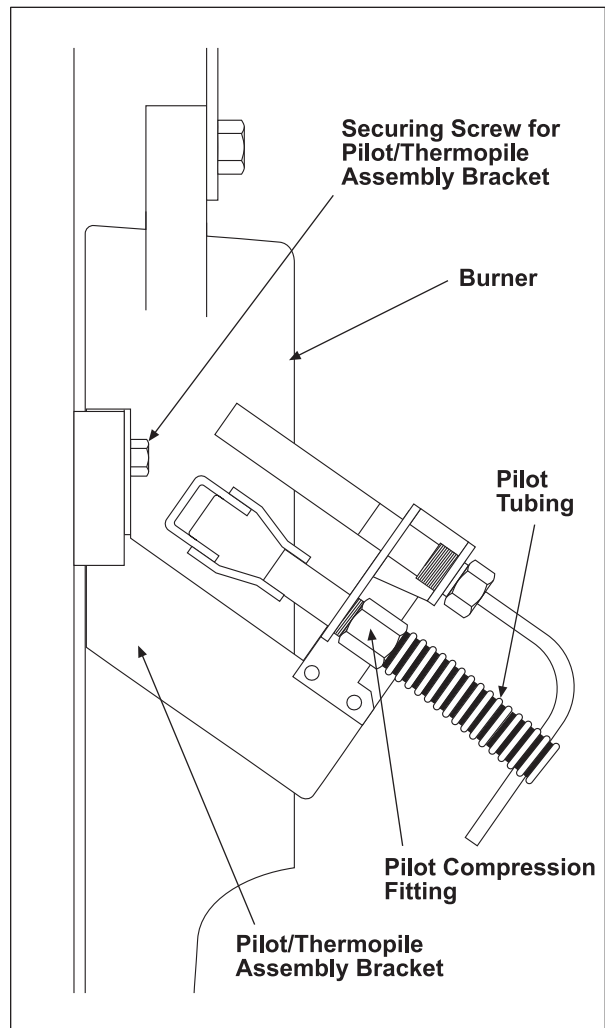

Figure 12
- Remove the screw securing the Pilot/Thermopile Assembly Bracket to the tank front. Lower the assembly away from the tank (Figure 12).
1. Remove the screw securing the Pilot/Thermopile Assembly Bracket to the tank front. Lower the assembly away from the tank (Figure 12).
2. While holding assembly in the palm of your hand remove the pilot compression fitting at the bottom of the pilot to expose the orifice (Figure 12).
2. While holding assembly in the palm of your hand remove the pilot compression fitting at the bottom of the pilot and disconnect the pilot tubing (Figure 12).